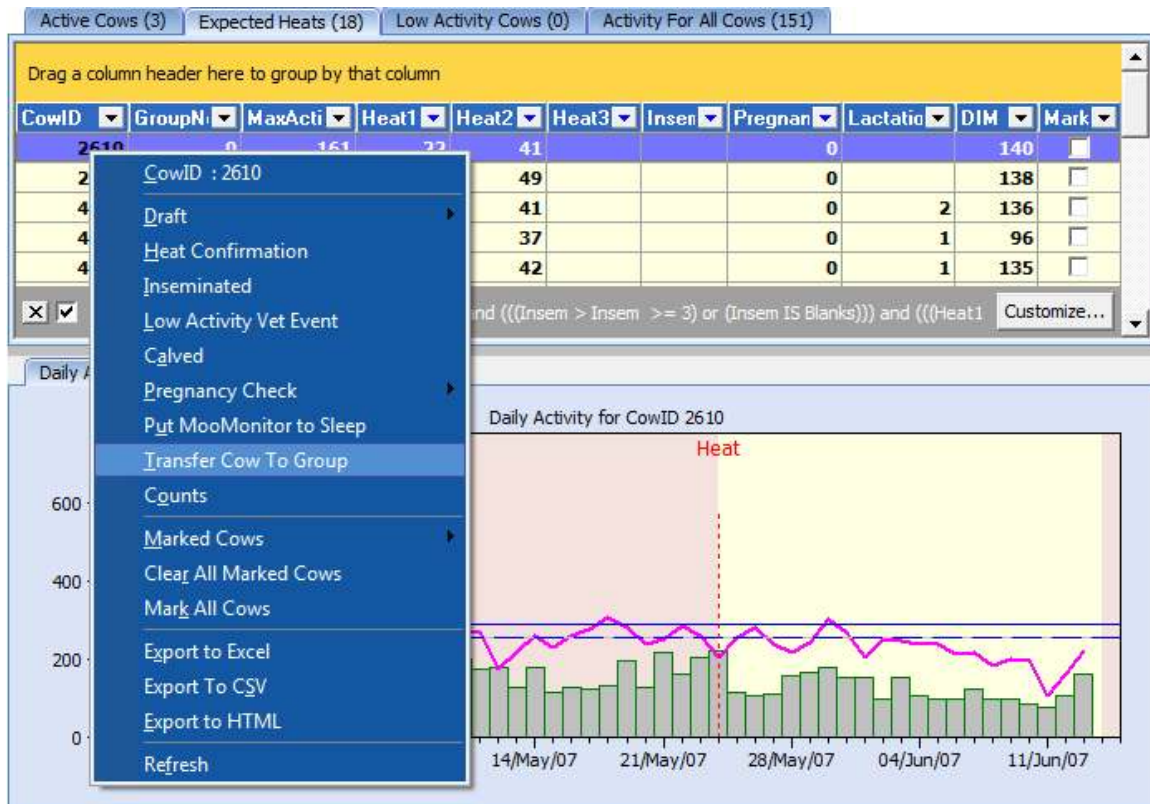

Figure 33 Right Click 'Transfer Cow To Group' option.
- Right click on the CowID that you wish to transfer to a group and select the 'Transfer Cow To Group' option as shown in Figure 33 above.